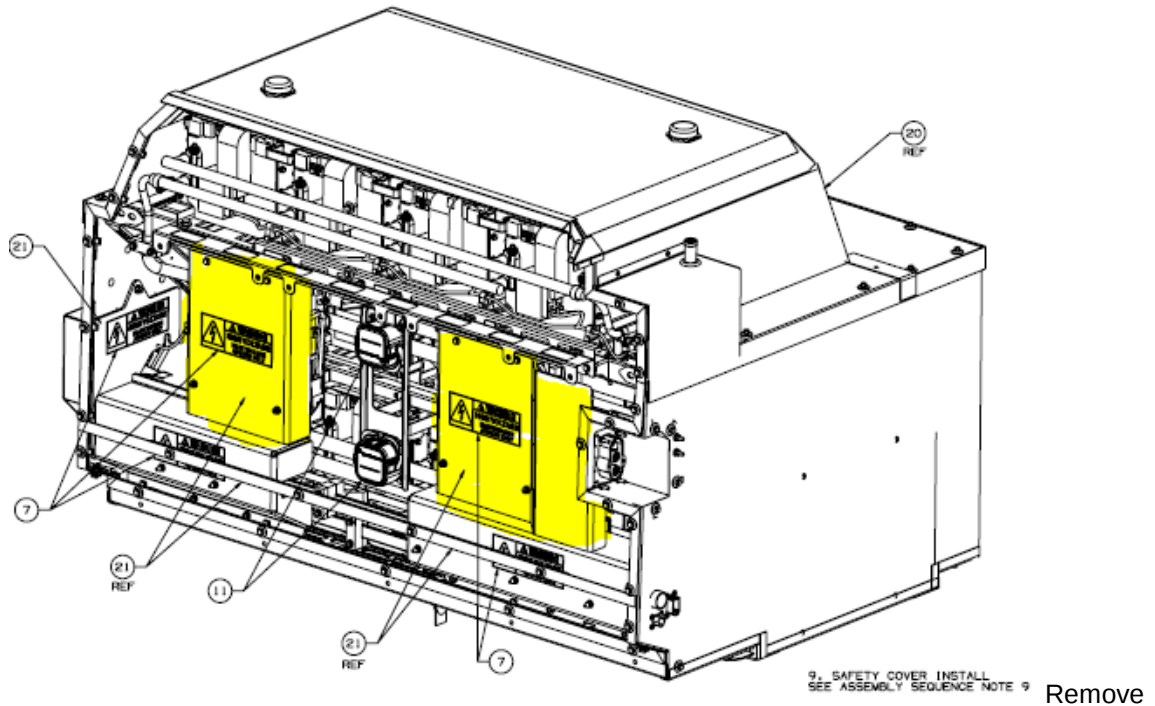

Figure 8: Rear ESS With Outer Covers Removed
- 3.1 the remaining covers highlighted below in figure 8. Replace at the end of section 3 torquing cover mounting hardware to 5 ft-lbs WET with Loctite PN: 081034.